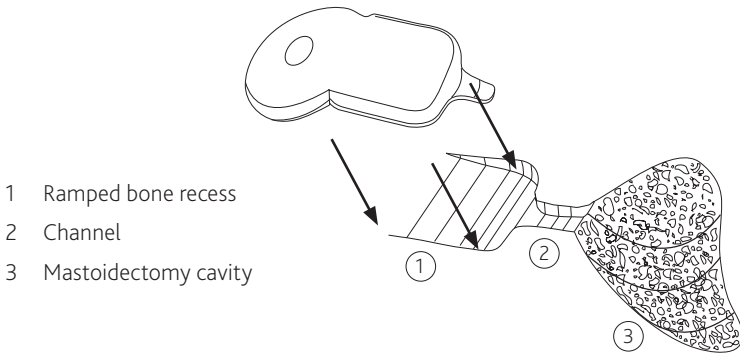

Figure 5: Ramped bone recess, electrode channel and mastoidectomy
5. Drill a channel to connect the bone recess and mastoid cavity, refer to **Figure 5**. The channel will help protect the electrode against trauma.